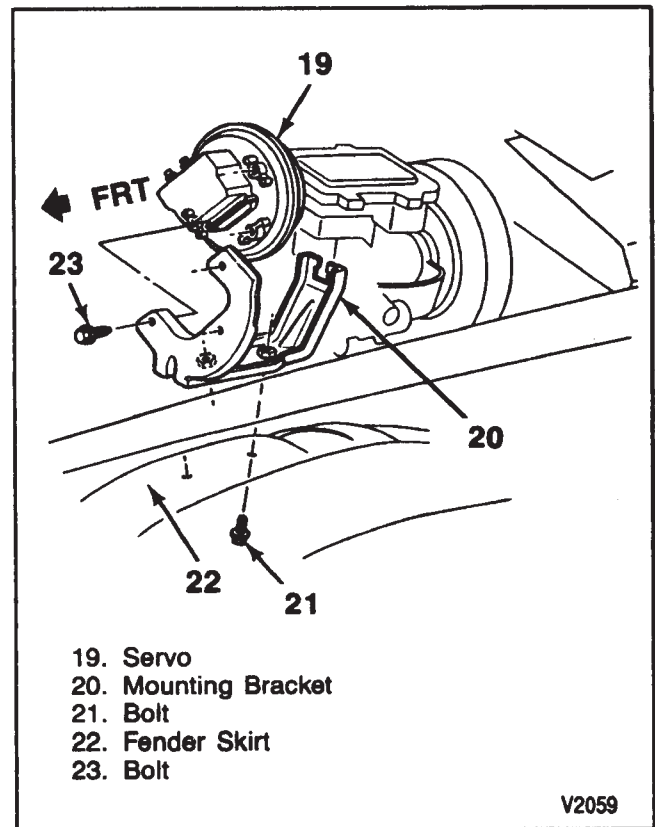
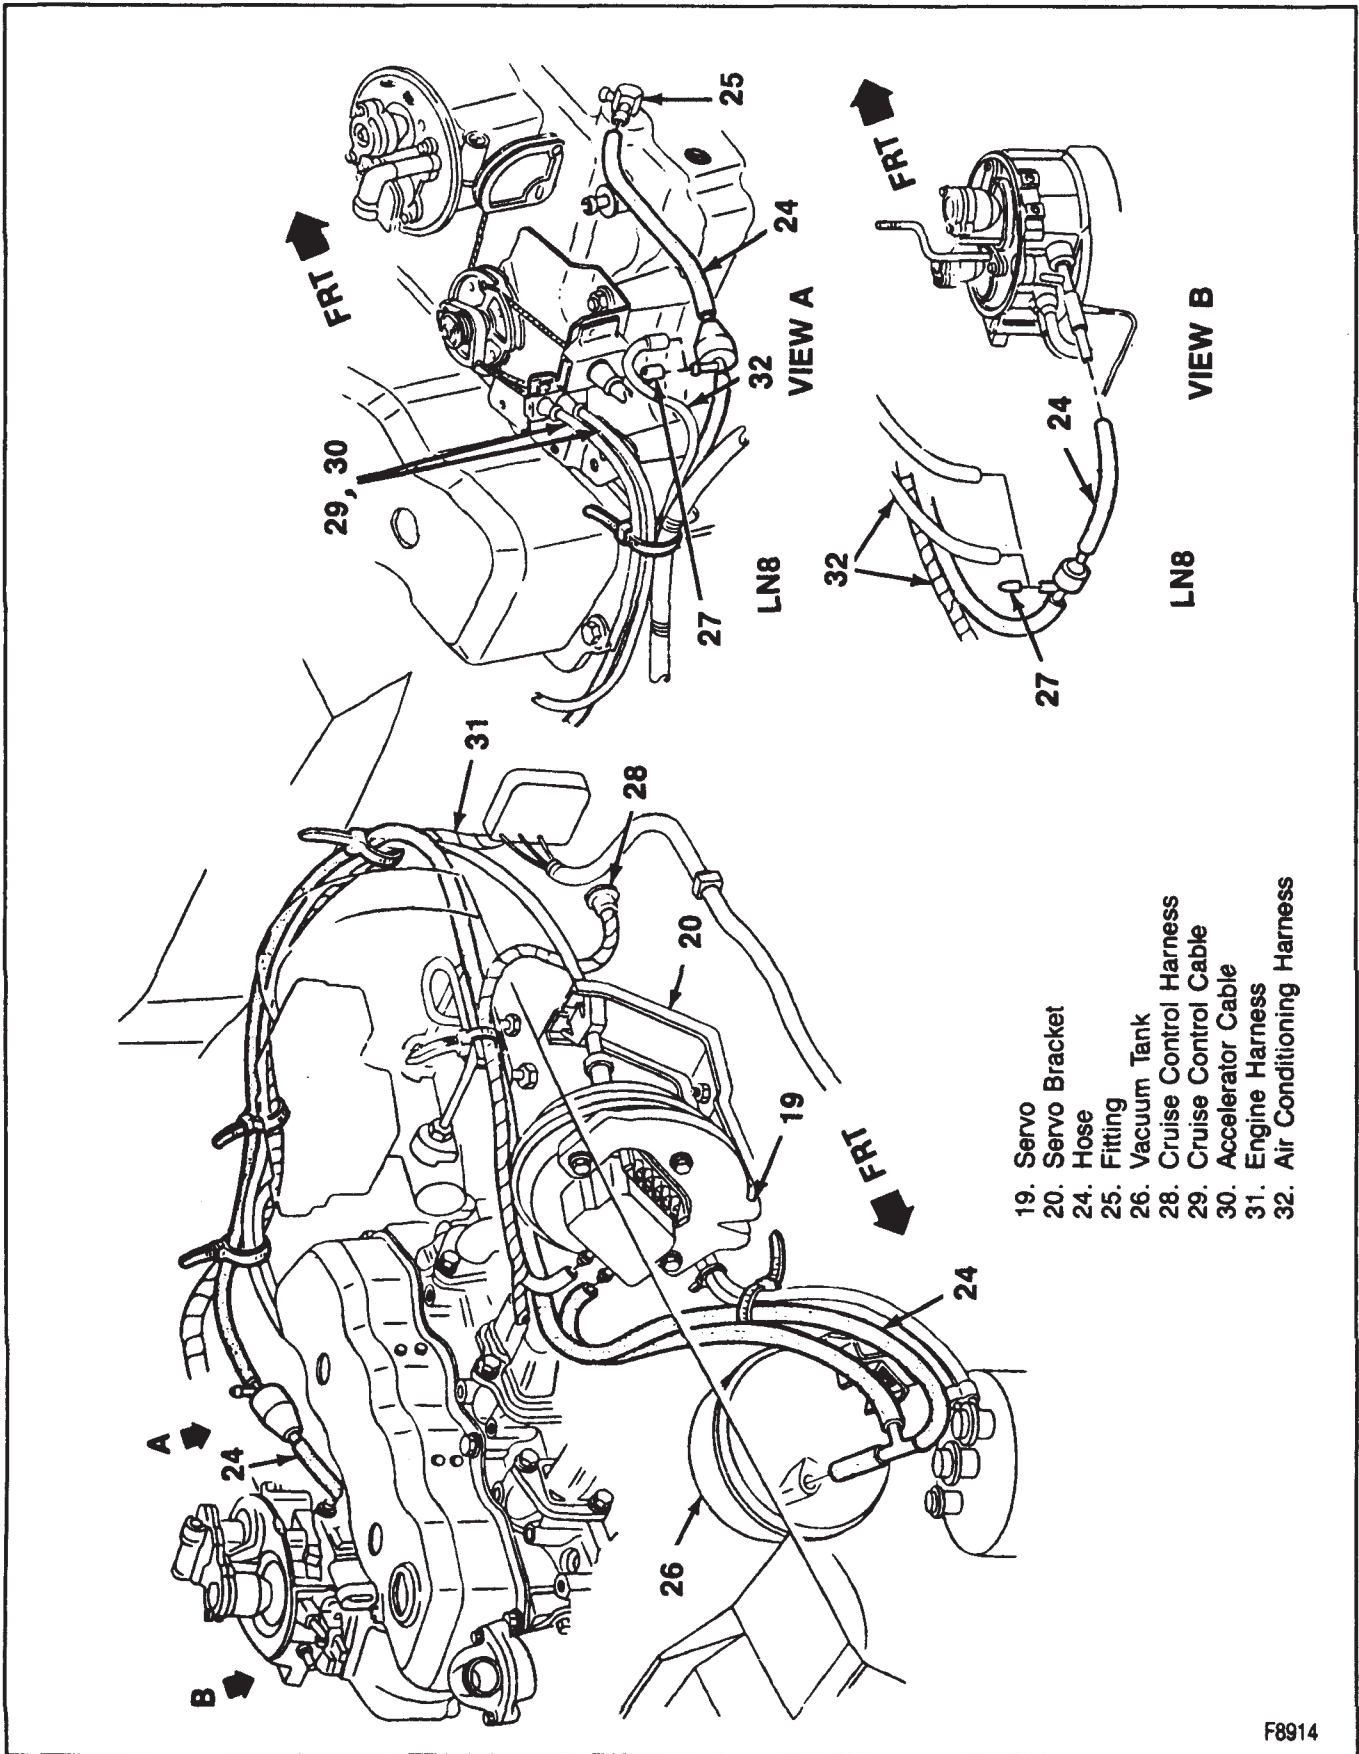

Figure 16—Servo Mounting
Figure 18—Servo Wiring Harness and Cable Routing—2.5L (VIN A) Engines
↔ Remove or Disconnect (Figures 16 through 21)
2. Vacuum hoses (figures 18, 19, 20, and 21).
3. Retainer (35).
4. Cruise control cable (29) from servo tab hole.
5. Bolts (23) (figures 16 and 17).
6. Servo (19).
↔ Install or Connect (Figures 16 through 21)
2. Bolts (23) (figures 16 and 17).
- Bolts (23) to 1.6 N·m (14 in. lb.) (figure 16).
4. Retainer (35).
5. Vacuum hoses (Figures 18, 19, 20, and 21).